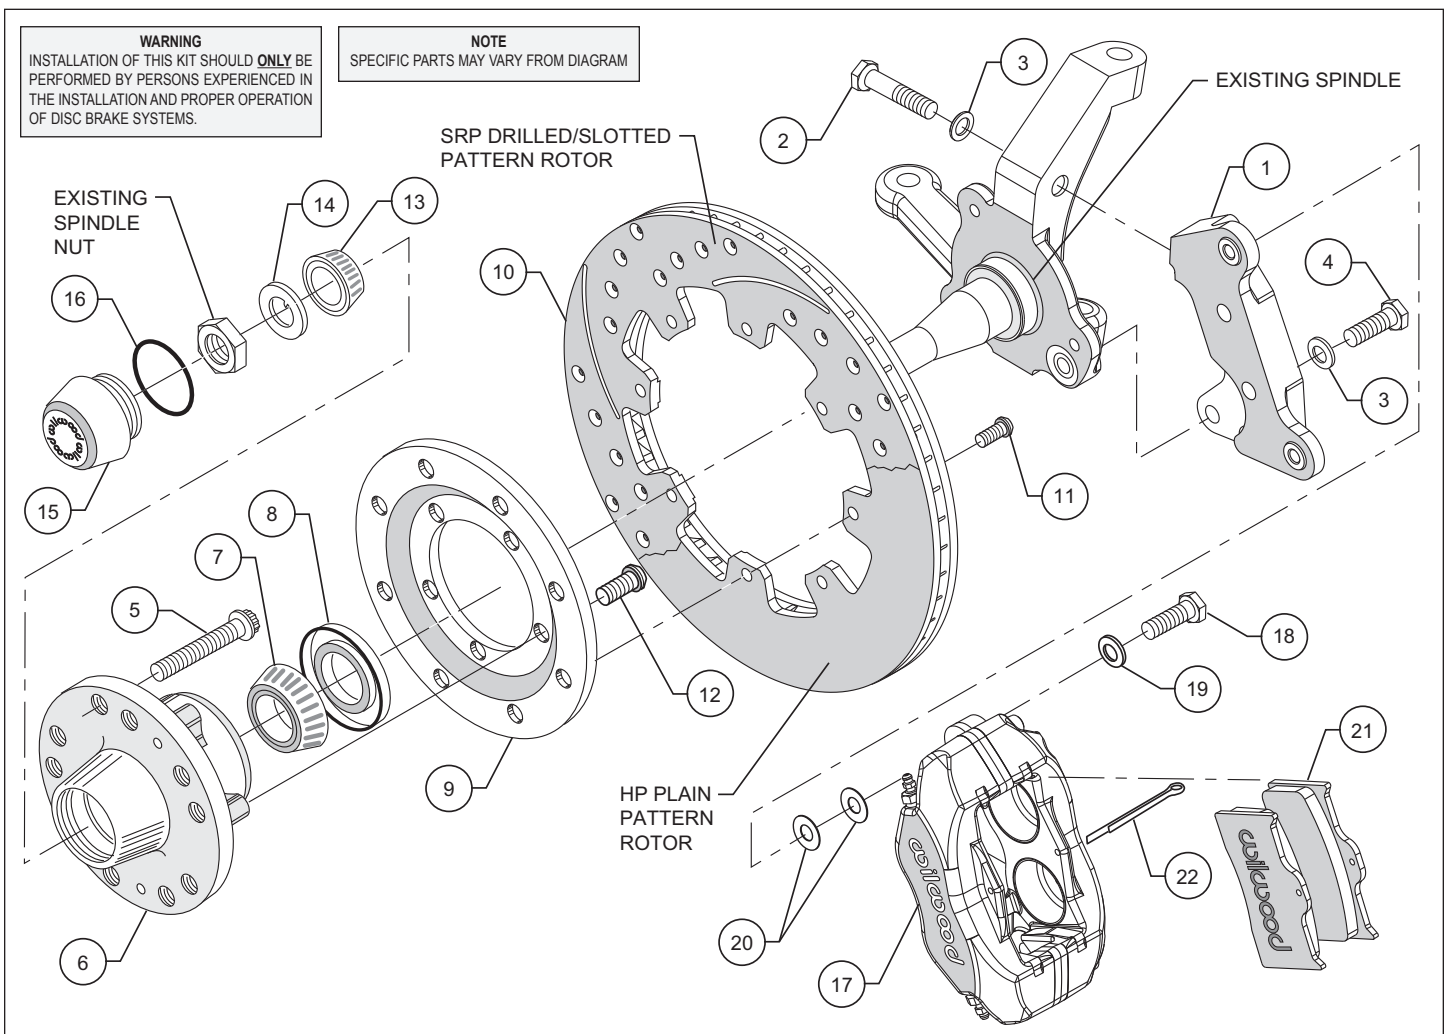

Figure 1. Typical Installation Configuration
- The caliper mounting bracket (1) should be installed first with clean, dry threads on the mounting bolts. Position the caliper mounting bracket (1) on the inboard side of the spindle. **NOTE:** Be sure the heads of the caliper bracket (1) insert nuts are facing outward toward the wheel. Slide bolt (2) through washer (3) and through the upper section of the spindle into the caliper mounting bracket (1). Slide bolt (4) from the backside through washer (3) and into the mounting boss on the spindle body (reference figure 1). Finger tighten only at this time. The bracket must tighten squarely against the inboard side of the spindle body. Inspect for interference from casting irregularities, machining ridges, burrs, etc. Later, after the caliper, pad, and rotor alignment has been checked, and any necessary shims have been put in place, the threads of the mounting bolts should be coated with red *Loctite*® 271 (see below).
- Install wheel studs (5) into the hub (6). Torque to 77 ft-lb. **NOTE:** There are two lug patterns of five holes each in the hub (5 x 4.50 and 5 x 4.75). Make sure of the correct hole pattern for the wheel application before installing the studs into the hub.
- Orient the rotor (10) and the rotor adapter (9) as shown in Figure 1. Attach the rotor to the adapter using bolts (11). Using an alternating sequence, apply red *Loctite*® 271 to the threads, and torque to 25 ft-lb.
- Mount the adapter/rotor assembly (9/10) to the hub (6) using bolts (12), as shown in Figure 1. Using an alternating sequence, apply red *Loctite*® 271 to the threads, and torque to 55 ft-lb.
- Pack the large inner bearing cone (7) with high temperature disc brake bearing grease (available from your local auto parts store) and install into the backside of the hub (6).
- Install the grease seal (8) by pressing into the backside of the hub (6).
- Pack the small outer bearing cone (13) with high temperature disc brake bearing grease and install into front of hub (6). Slide the hub assembly (5, 6, 7, 8, 9 and 10) with outer bearing cone (13) onto the spindle. Secure using spindle washer (14), stock adjusting nut and nut locking device. Adjust bearings per Original Equipment Manufacturer (OEM) specifications.